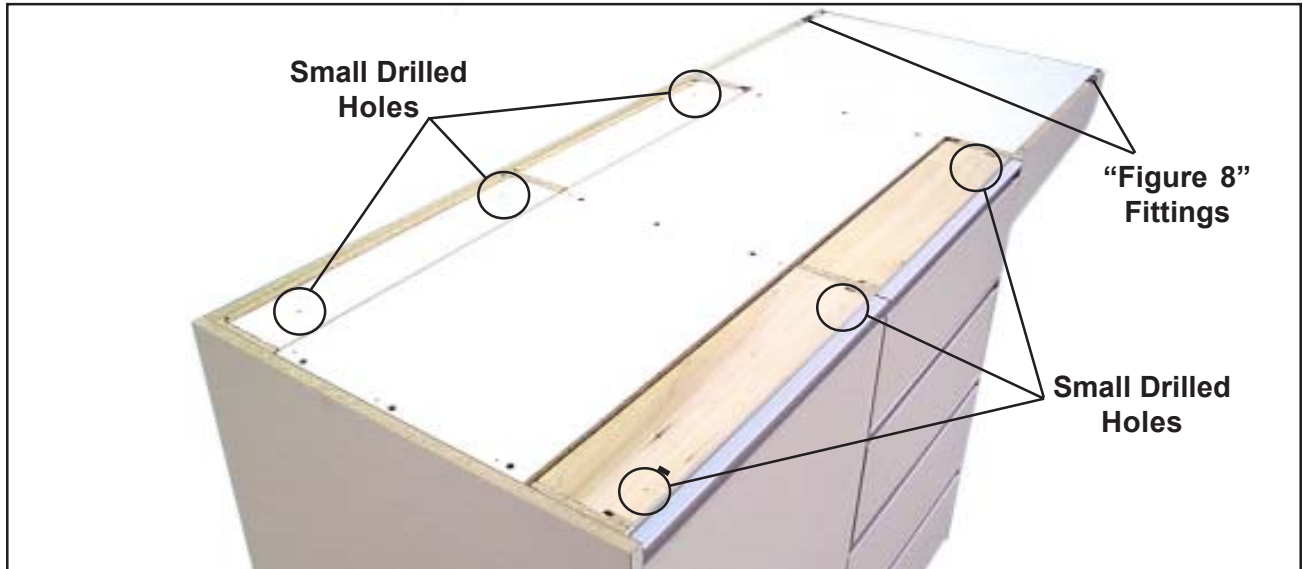

Figure 3. Mounting Locations for the Laminated Top
4. Examine the upper surface of the cabinet (top is not yet installed) and locate the six small drilled holes (Figure 3). You will need to know the locations of these holes in *Step 9*.